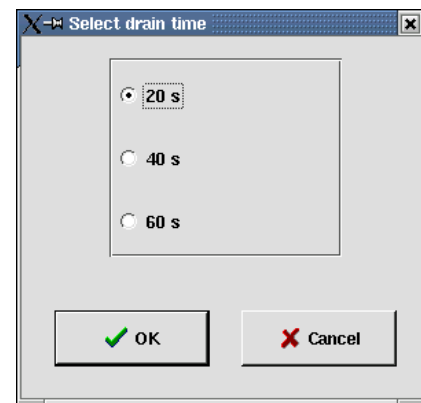

Fig. 52
- **Drain time:** Here a prolonged drain time can be set to achieve even less carry-over into the next reagent (fig. 52).